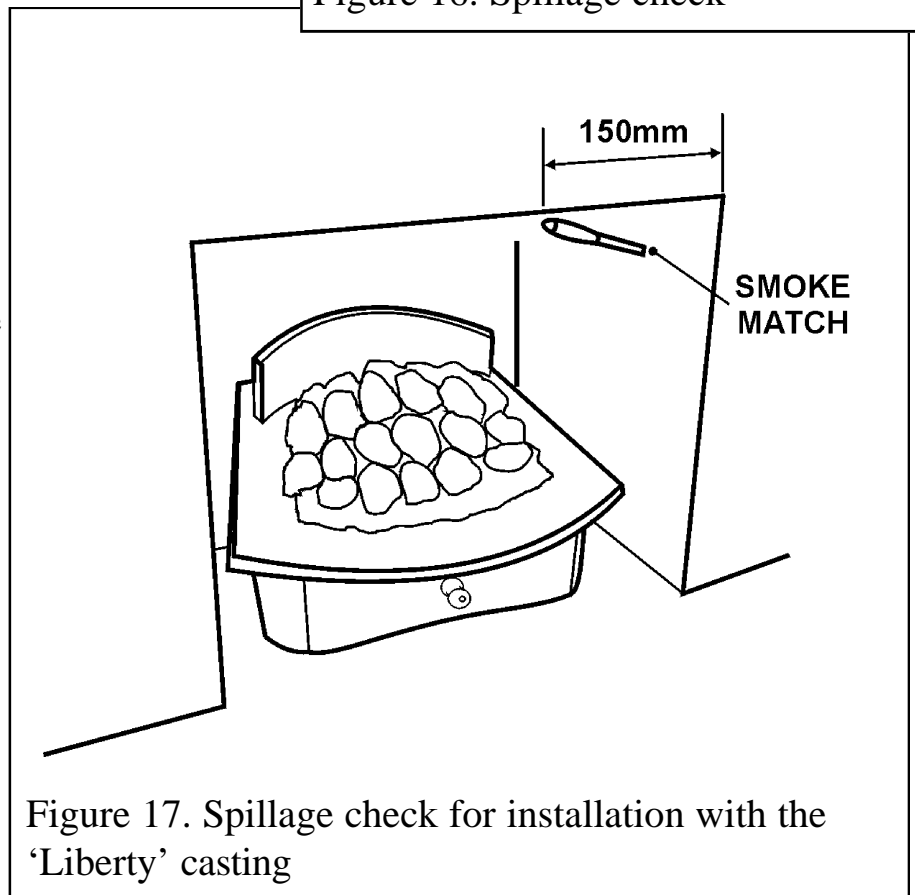

Figure 17. Spillage check for installation with the 'Liberty' casting
- A spillage check must be made before leaving the installed appliance with the customer. Make this with all the ceramic fuel effect pieces and firefronts / castings in position. (See figure 17)